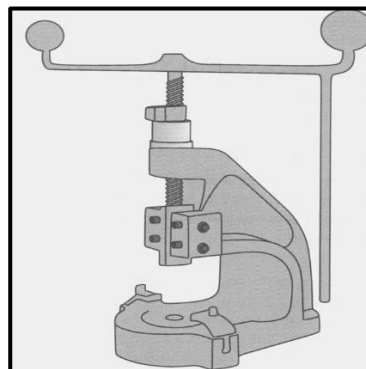

FIGURE 4.1
- 4.1 Identify the type of equipment shown in FIGURE 4.1 below.